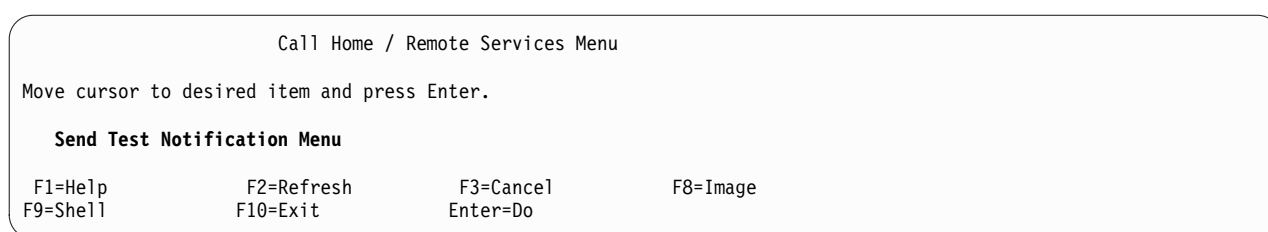
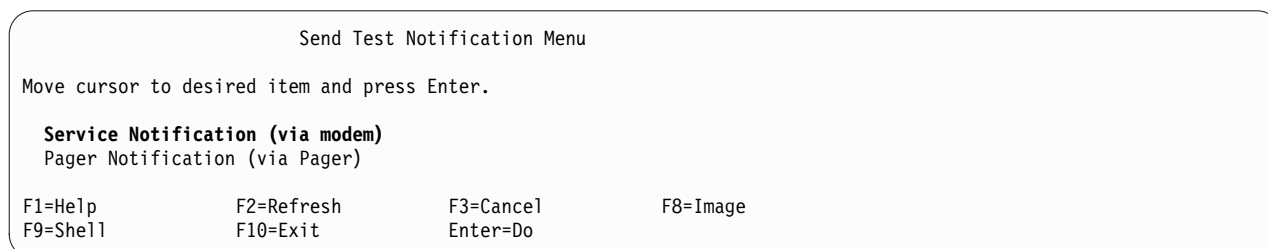
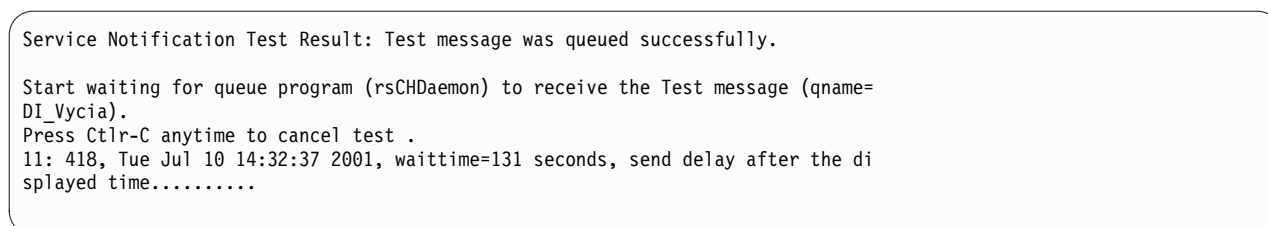

Figure 135. Call Home / Remote Services Menu – Send Test Notification Menu
Figure 136. Send Test Notification Menu – Service Notification
Figure 137. Send Notification Test Result Menu – Waiting
1. Return to the tape system's Call Home / Remote Service Menu at the Library Manager EBTERM Service Screen (if available). To test a call home through the TSSC, select **Send Test Notification Menu**, as shown at Figure 135 on page 115. Press **Enter**. Figure 136 on page 115 displays.
Attention: Select the illustrated line item **only at Figure 135 on page 115**. No other menu display items are applicable for this process.
- At Figure 136, select **Service Notification (via modem)**. Press **Enter**. Figure 137 displays.